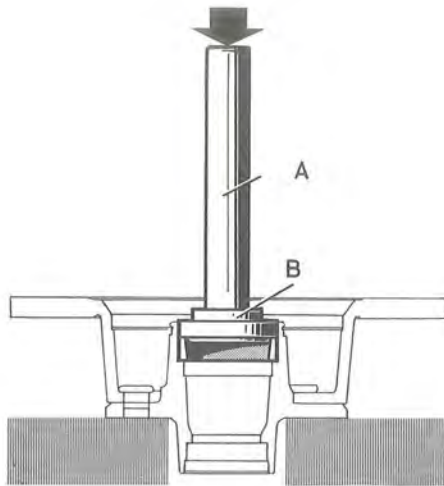

Fig. 7-24. Fitting the inner bearing ring
7. Press in the new bearing rings. In addition to using standard handle SVO 1801, use drift SVO 2723 (Fig. 7-24) for the inner ring, and drift SVO 2724 (Fig. 7-25) for the outer bearing ring.